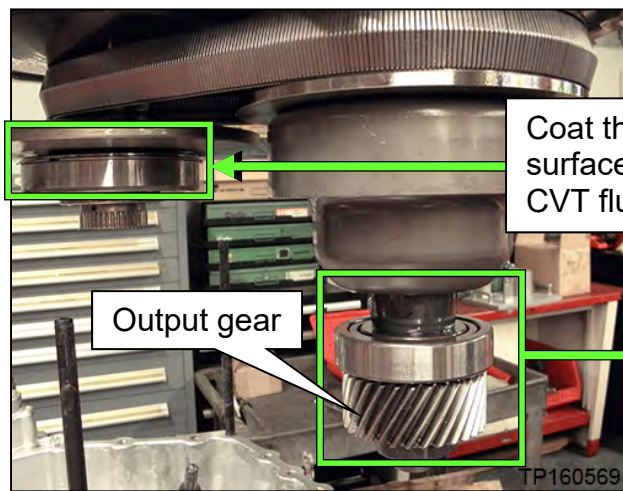
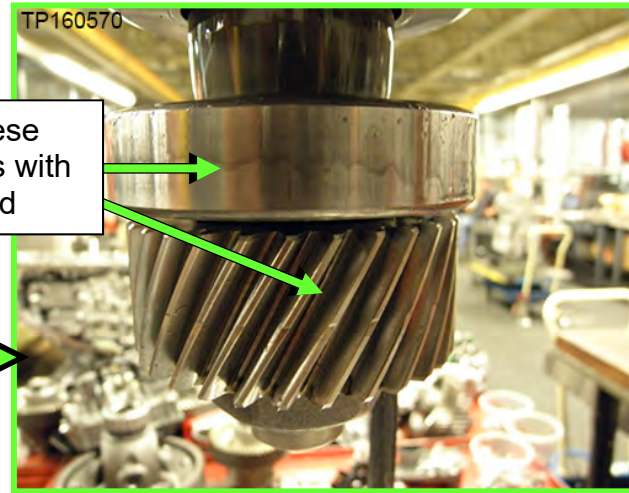

Figure 102
Figure 103
75. Coat the primary pulley bearing, secondary pulley gear teeth, and the secondary bearing with CVT fluid prior to installation (Figure 102 and Figure 103).